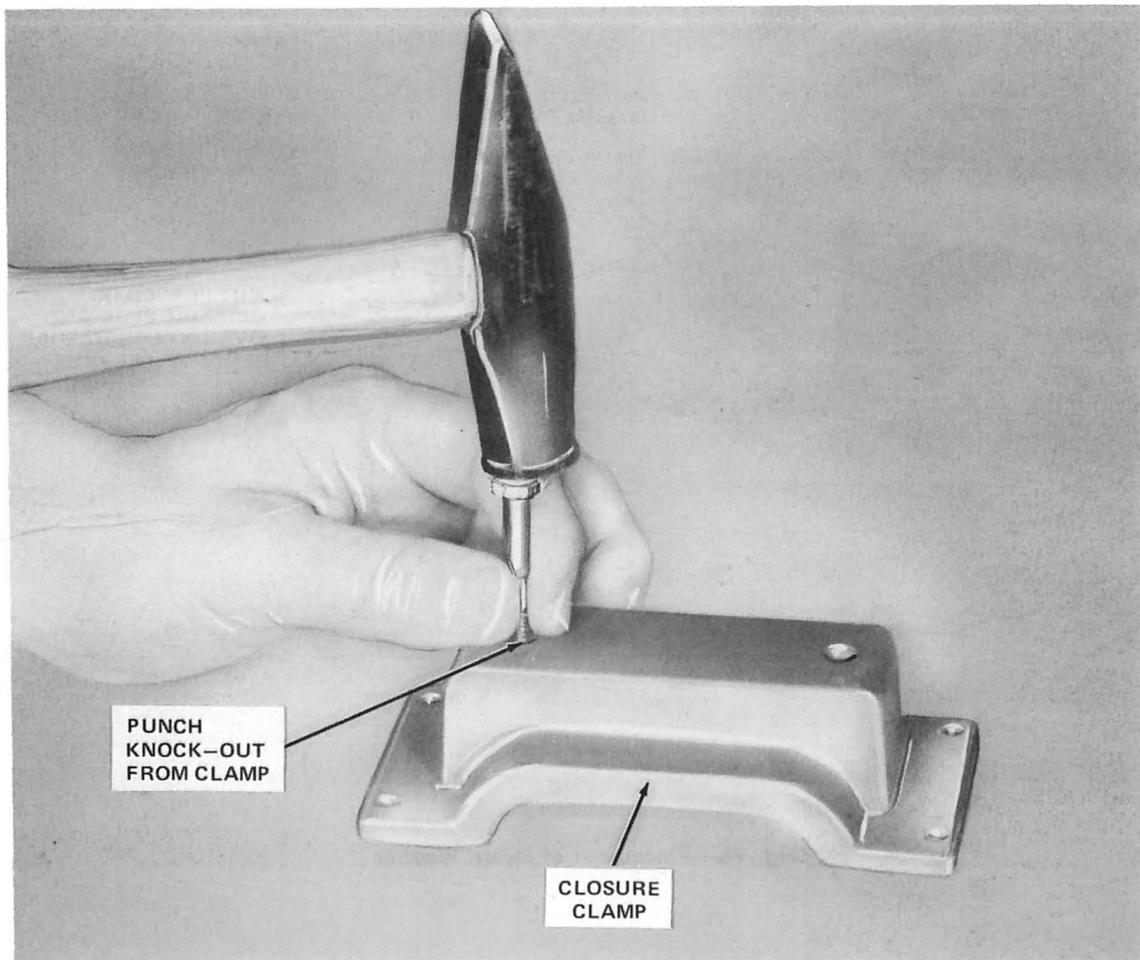
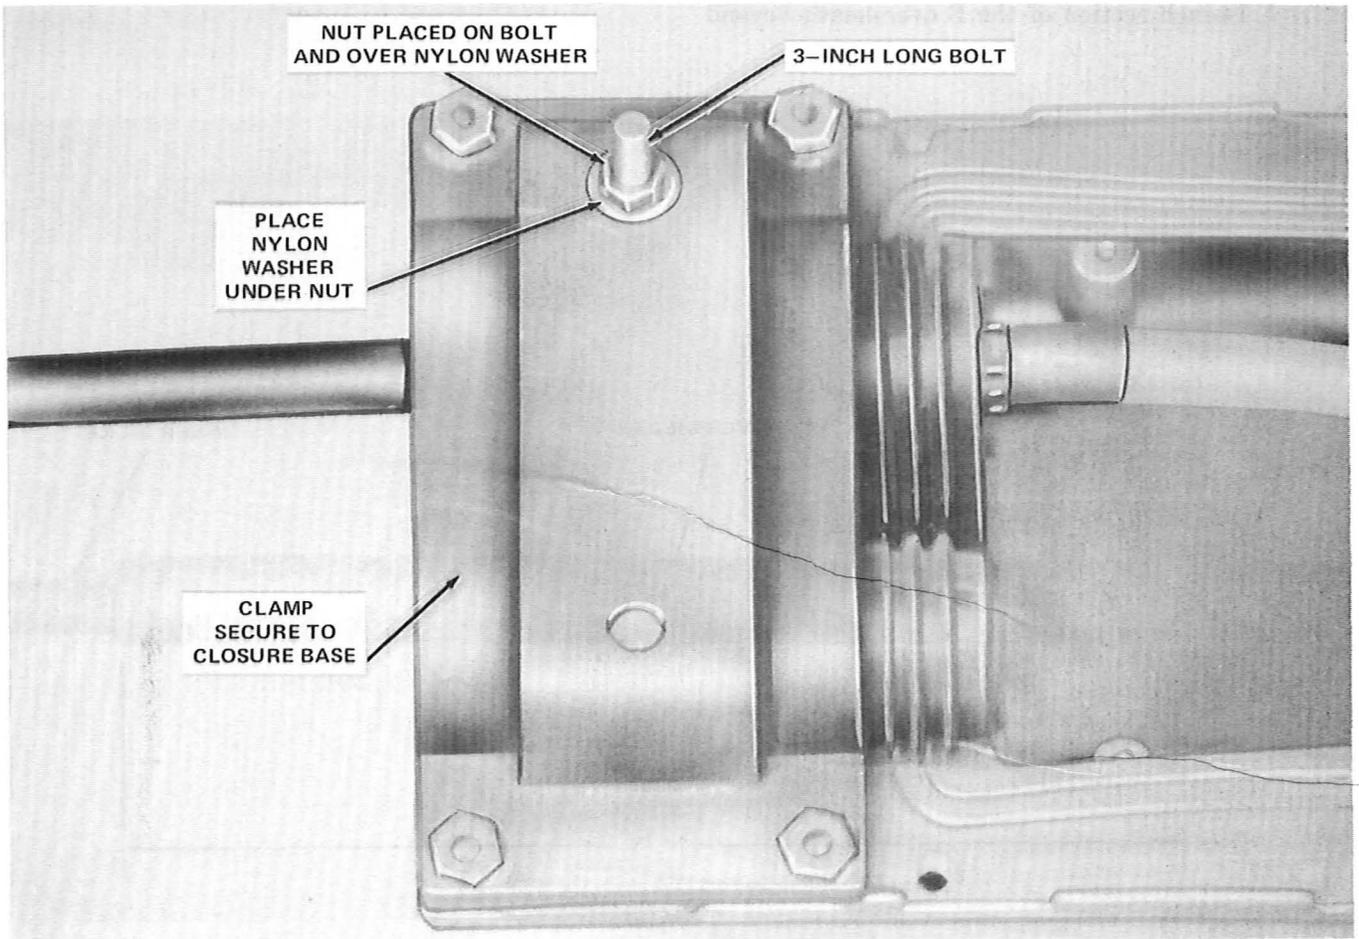

Fig. 99—Removing Knock-Out From Clamp
Fig. 100—External Grounding Completed
12.06 Using a bolt, punch the appropriate knock-out from the closure clamp as shown in Fig. 99. Install the clamp onto the closure base with the threads of the 3-inch bolt protruding through the opening in the clamp, then place a nylon washer and nut over the bolt. (See Fig. 100.)